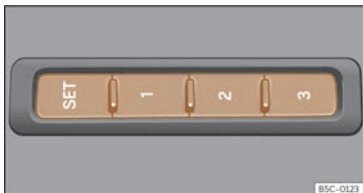

Fig. 95 On the outer side of the driver seat: memory buttons.
- Press **SET** for longer than 1 second >>> **Fig. 95**.